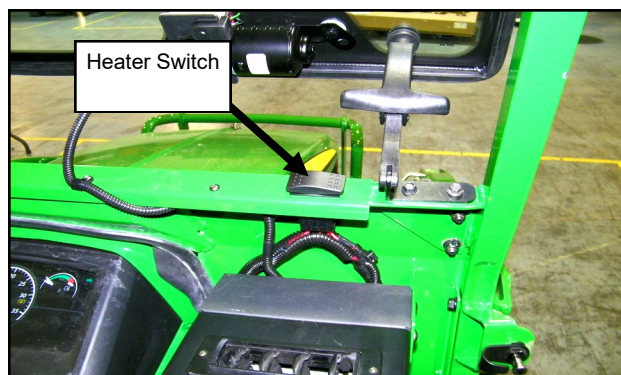

Fig. 3.1 (Install Switch)
- 3.1 See fig. 3.1. Push the switch connector up through the rectangular hole in the cowl, connect to the switch and snap in the heater switch. The “off” position for this switch is in the middle, with low speed one way and high speed the other way. The switch may be installed in either direction, and can be removed and rotated 180° later if desired.